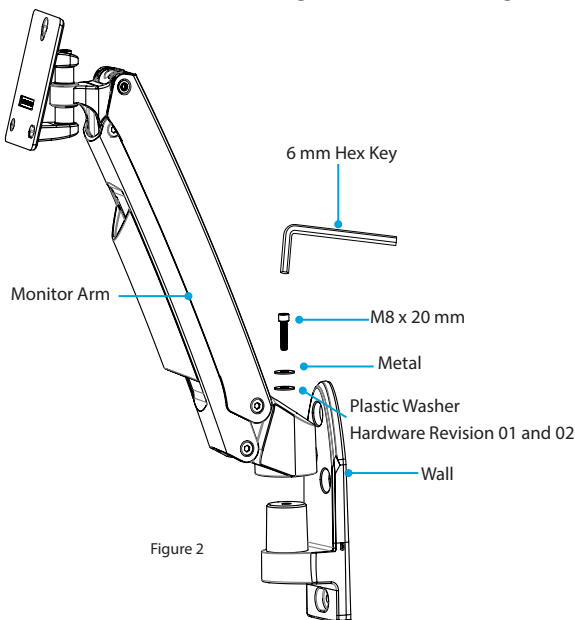
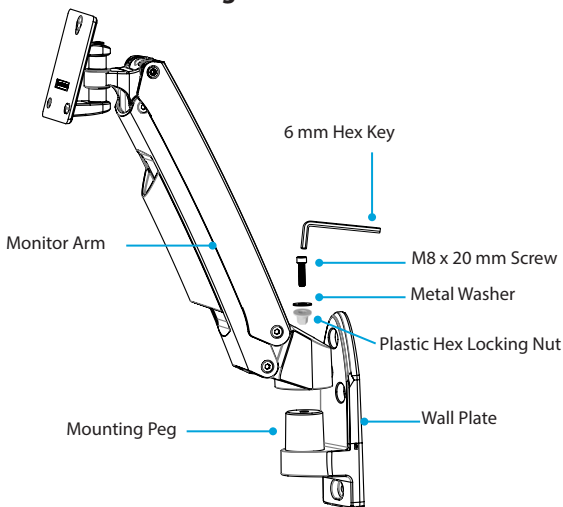

Figure 2
Figure 2a
4. Insert the **M8 x 20 mm Screw** through the **Washers** and into the **Mounting Peg**, located on the **Wall Plate**, and tighten, using the **6 mm Hex Key**. (Figure 2 and Figure 2a)